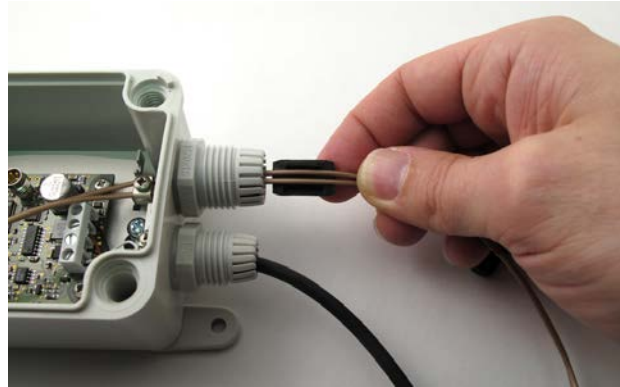

Figure 6 Assembling the Probe Cable Plug
6. Assemble the rubber plug around the probe cable, and push it into the cable gland. See Figure 6.